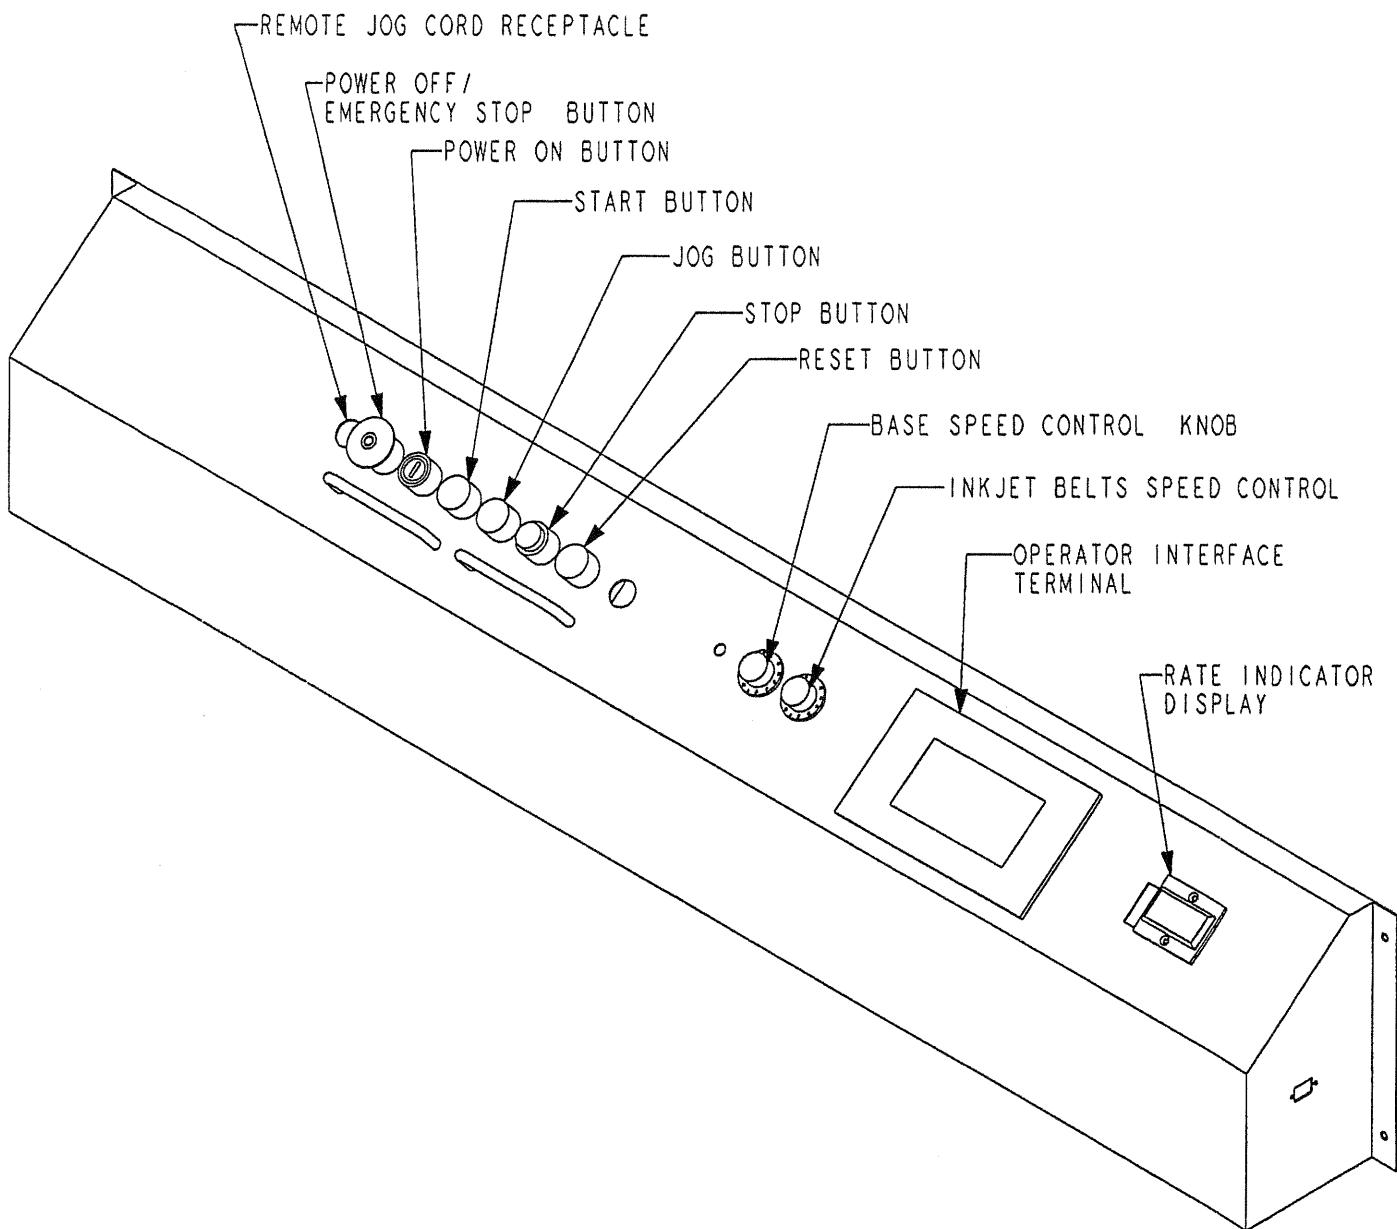

FIGURE 5.0
4.2.1 Control Panel Description (see Figure 5.0)